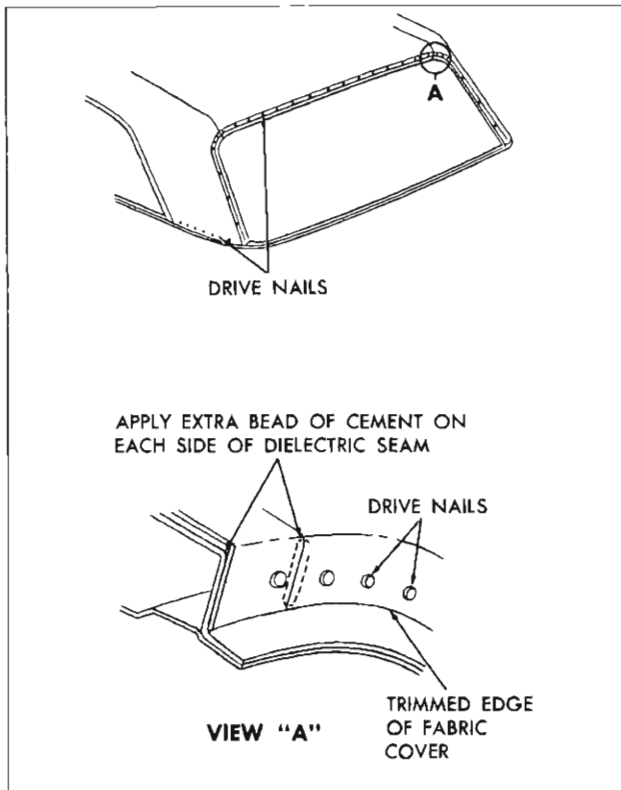

Fig. 118—Drive Nail Installation
15. At windshield and back window openings, cement cover into opening as shown in View "A", Fig. 118. Apply extra bead of cement to each side of dielectric seam between fabric cover and roof panel at windshield and back window openings. View "A", Fig. 118).
16. Using hammer and flat end punch install drive nails at windshield and back window openings. (View "A", fig. 118 shows typical drive nail installation).
17. Install drive nails at belt line of rear quarter area. (Fig. 118).
18. Trim off material at windshield, back window, and rear quarters. View "A" in Fig. 118 shows where trimmed edge should occur in openings.